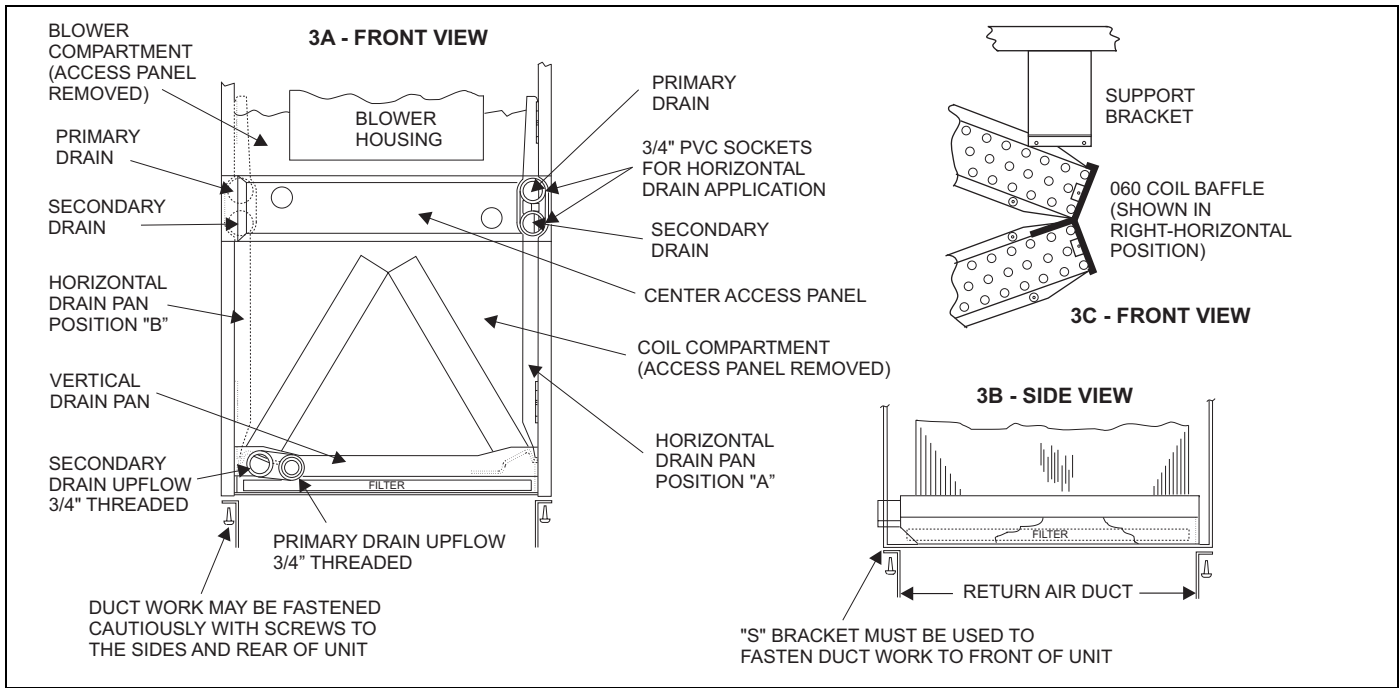

FIGURE 3: Filter Access & Drain Pan Conversion / Coil Baffle
2. See Figure 3, remove two screws from horizontal drain pan, to remove pan from position "4A" if factory installed.